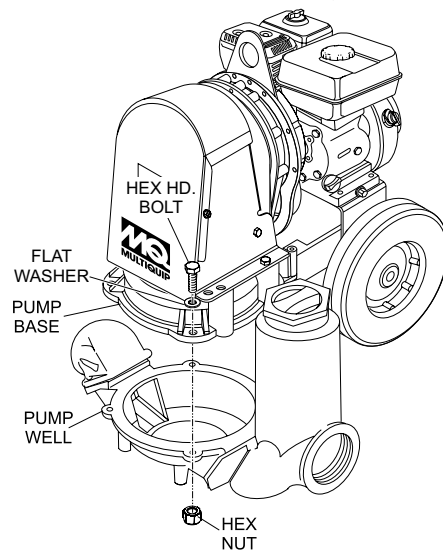

Figure 24. Pump Well (Clean-out)
2. Push pump well downwards (Figure 24) to separate from pump base.